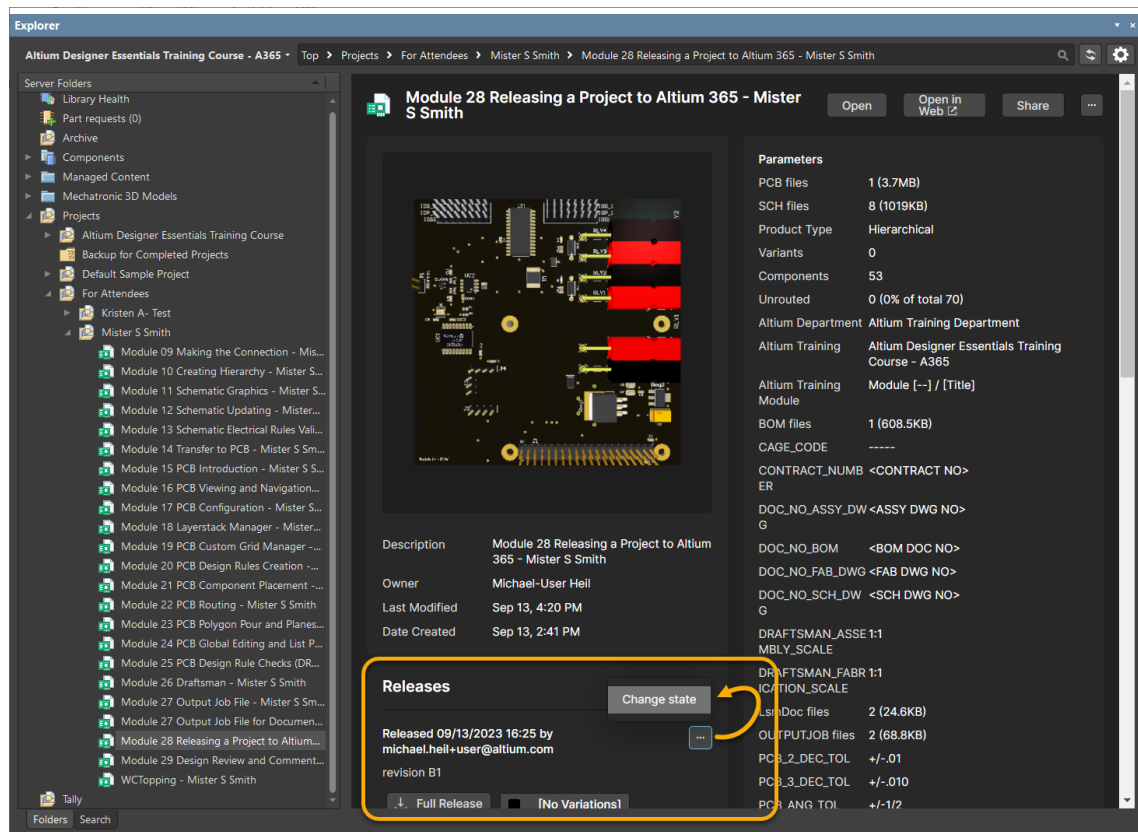

Figure 13. Example View for Explorer Panel with released Project
41. Select the Ellipsis button  and select **Change State**, Figure 13.